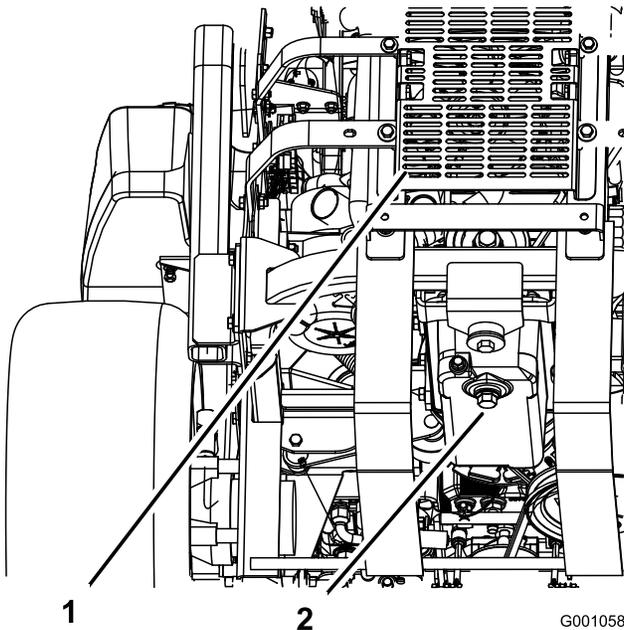

Figure 65
5. Place a pan below the oil drain. Remove the drain plug and let the oil drain completely (Figure 65).